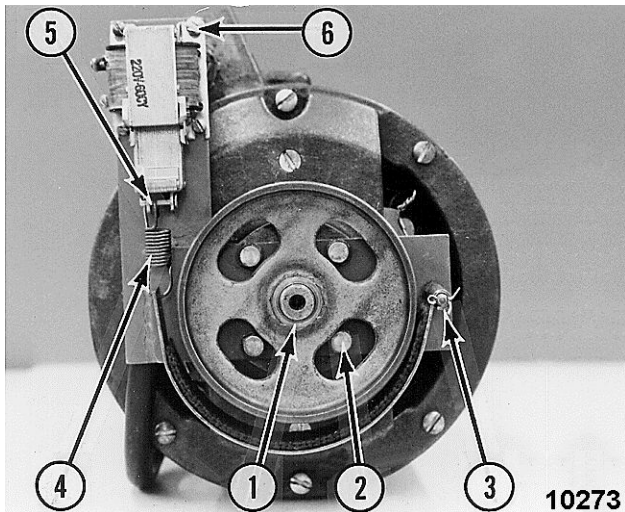

Fig. 115
6. Holding the brake drum so it does not move, remove the locknut [1] Fig. 115 and slip the brake drum off the motor shaft.
7. Remove the brake mounting bracket assembly from the motor [2] Fig. 115 (qty. 4).